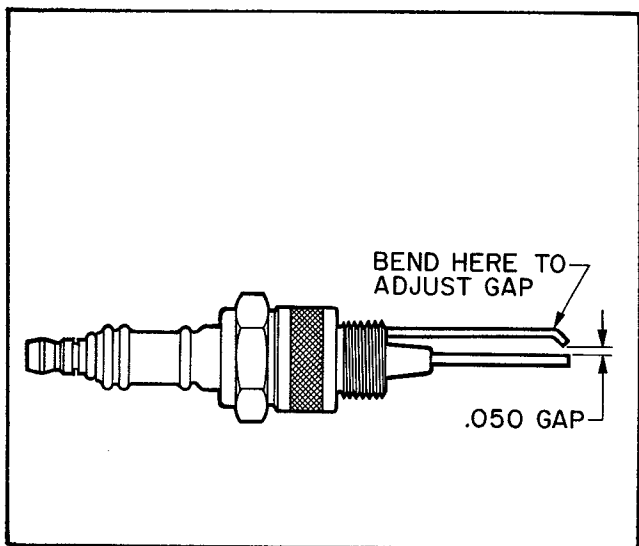

Figure 6. Spark Plug Gap Setting
3. Adjust the gap by bending the outside electrode where shown in figure 6. If you do not install the plug immediately, protect it from damage until it is re-installed.